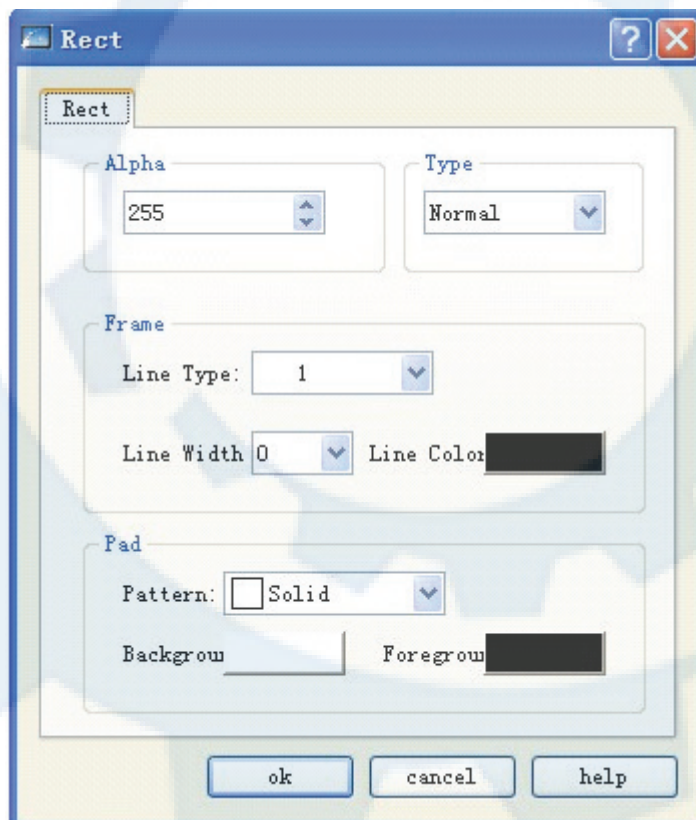

Figure 4-29: Rectangle properties dialog
- After completing the above steps, the rectangle has default settings in transparency, line type, line width, line color, and filling pattern. You can modify these settings basing on actual needs. To do this, move the mouse onto the rectangle and double click, or click Properties button  in the tool bar after choosing the rectangle. At this moment, a property dialog as shown in Figure 4-29 will appear.